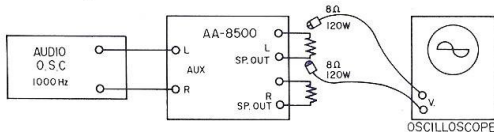

Fig. 1
- Connect an 8 $\Omega$  120 W resistor to the left and right channel speaker terminals, and connect the oscilloscope across this resistor (see Fig. 1).
- Connect instruments as shown in Fig. 1 and use a VTVM in place of the oscilloscope.